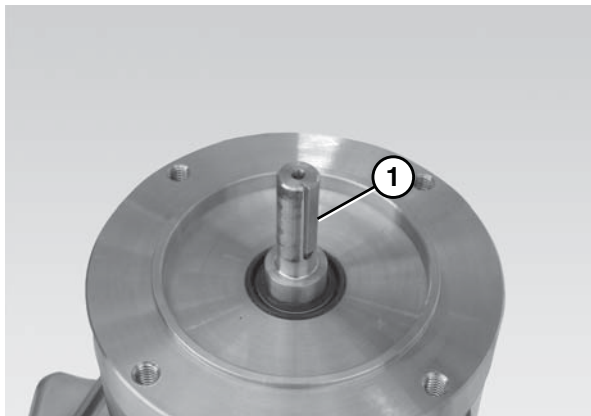

Figure 18
Ensure the gearmotor output shaft key (Figure 18, item 1) is situated properly before attaching the motor to the gear reducer.